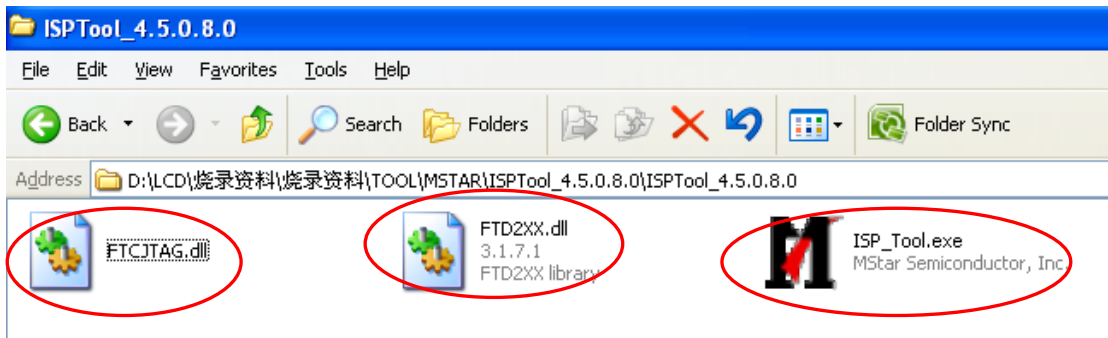

Fig3
4.1. Copy these three files to one folder as fig3 if you use the latest version tool.